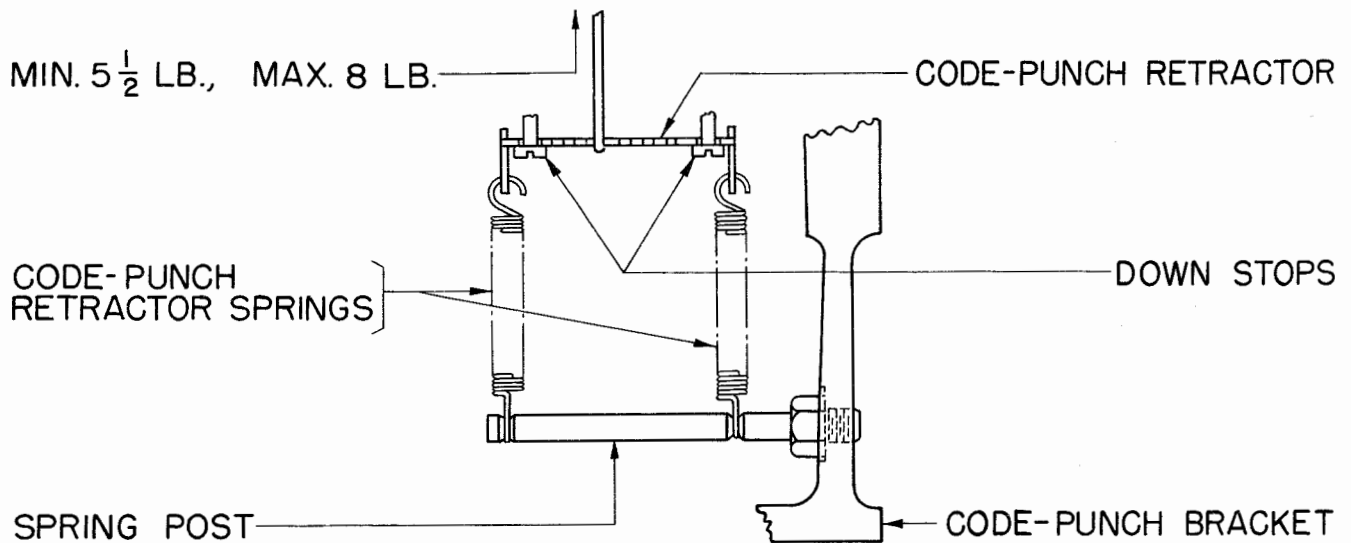

Figure 50
2.100 Code-punch-retractor Springs: It shall require a pull as indicated in Figure 50 to start the retractor moving away from the downstops when the punch-arm roller is on the low part of its cam and the selector fingers are in the spacing (extreme right) position.